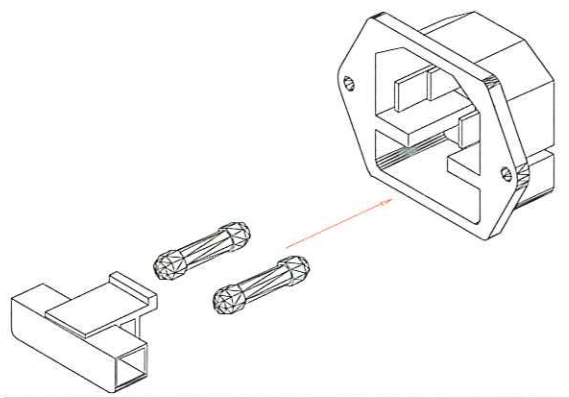

Figure 2
MEGASONIC 700 & MEGASONIC 707 has two fuses placed on the left part of the back of the equipment. The fuses can be easily replaced by the user (see fig. 2).
- 3) Press the lateral edges as indicated in figure 2, and remove the piece that supports the fuses.